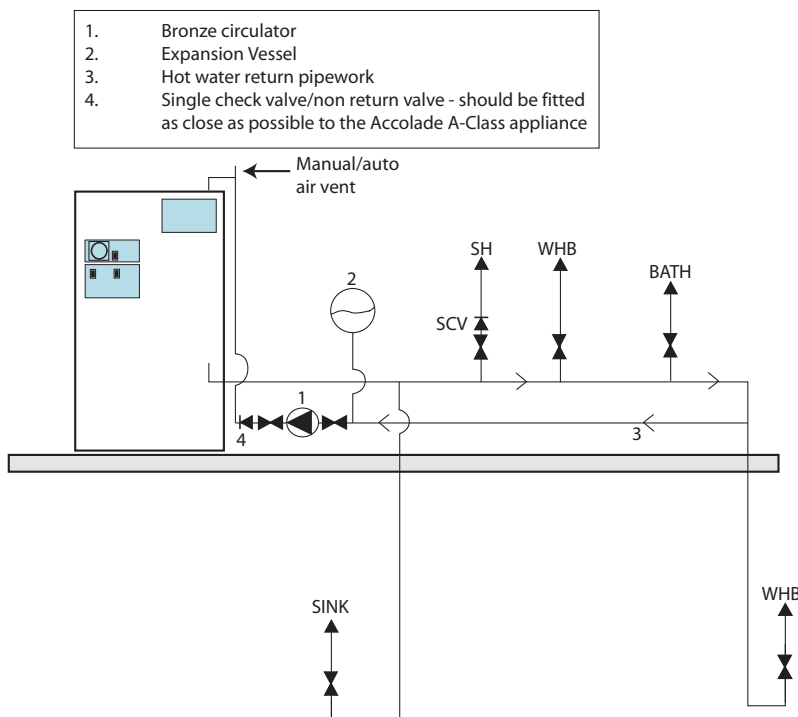

Figure 2.2 Schematic diagram of typical secondary hot water circulation
- A secondary hot water circulation system as shown schematically in figure 2.2.